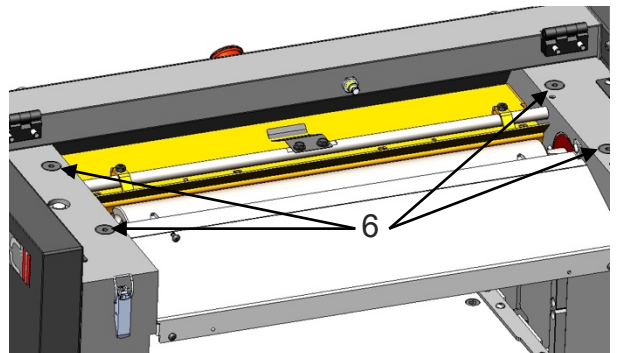

Figure 27: Lubrication
- Every 30 hours, lubricate the bushings. (Fig. 27)